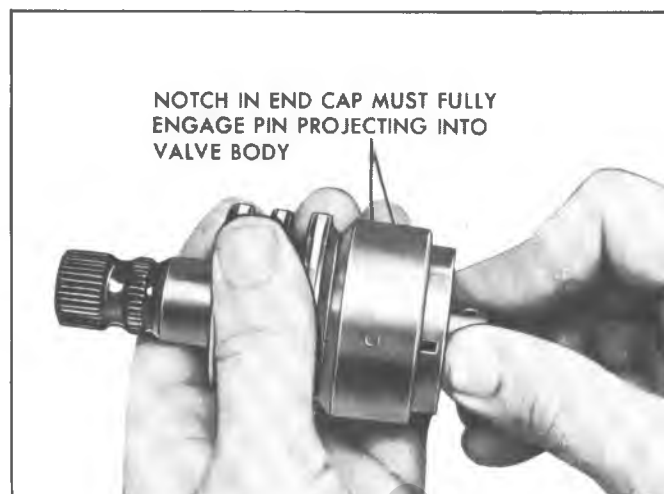

Fig. 46-Installing Stub Shaft Assembly
6. Align the notch in the shaft cap with the pin in the valve body and press the spool valve and shaft assembly into the valve body (fig. 46).